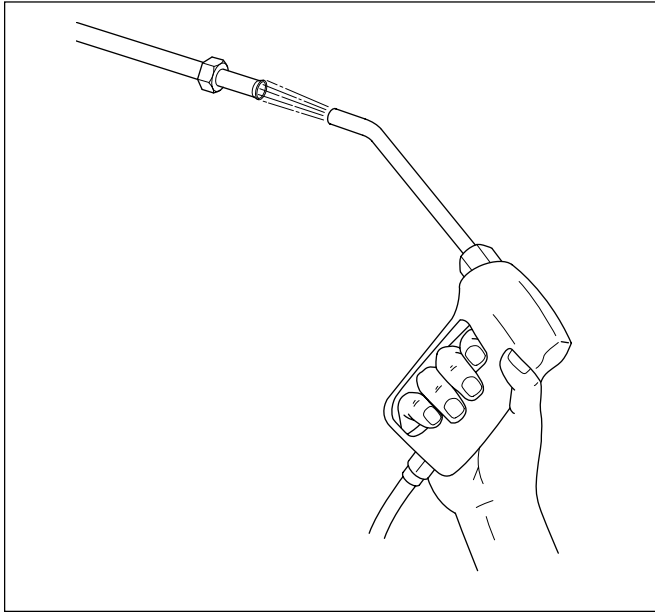

Figure 19
3. Clean the inner surface of the tubing by injecting fluid into both ends with a high-pressure (approximately 500 psi) water jet gun similar to those used at a self-serve car wash (see Figure 19).